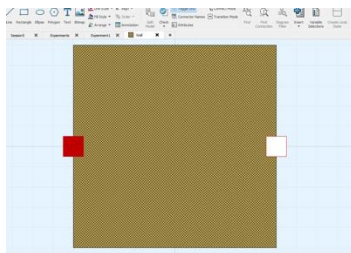

Figure 6.2: Icon of **Wall**
9. Go to the icon view and draw a simple icon of a wall (Fig. 6.2 is just an example. You can be creative!